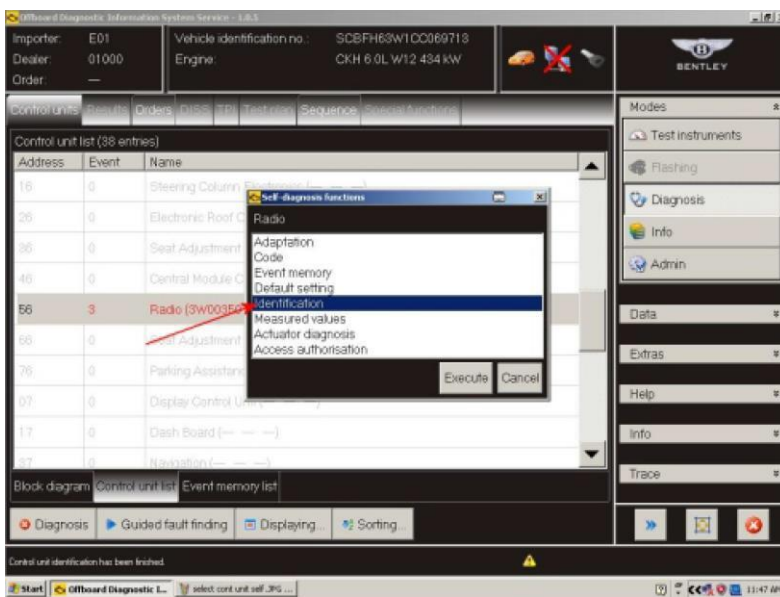

Figure 4
- Select *Identification* and then *Execute* (see Figure 4)